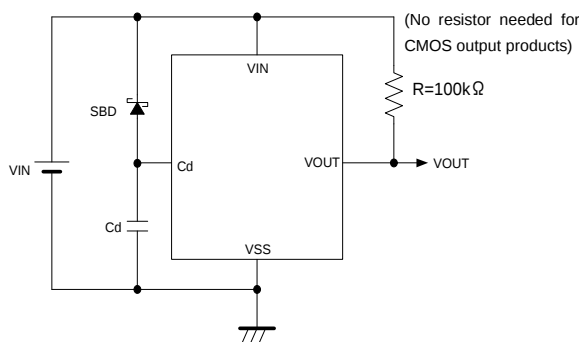

Figure 3: Circuit example with the delay capacitance pin (C_d) connected to a schottky barrier diode
5. When there is a possibility of which the input pin voltage falls rapidly (e.g.: 6.0V to 0V) at release operation with the delay capacitance pin (C_d) connected to a capacitor, use a schottky barrier diode connected between the V_{IN} pin and the C_d pin as the Figure 3 shown below.